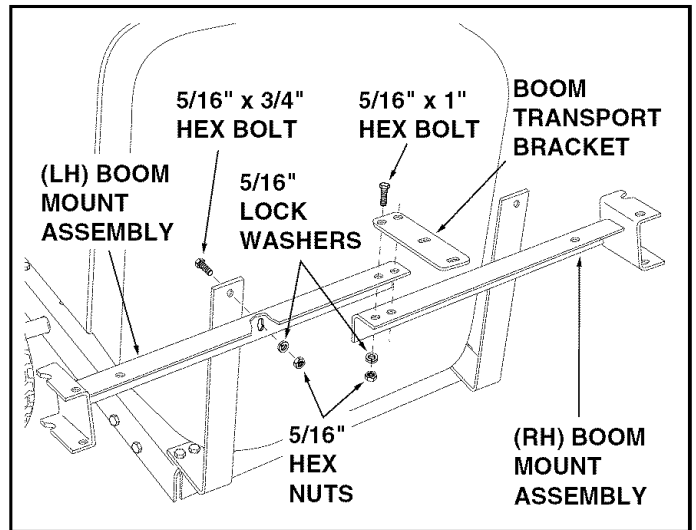

FIGURE 9 VIEWED FROM REAR
14. Assemble the (RH) and (LH) boom mount assemblies to the boom mount brackets using two 5/16" x 3/4" hex bolts, 5/16" lock washers and 5/16" hex nuts. Fasten through the slotted hole in each boom mount assembly. **Do not tighten** yet. See figure 9.
15. Align the holes in the boom transport bracket with the holes in the ends of the boom mount assemblies as shown in figure 9. Fasten them together using two 5/16" x 1" hex bolts, 5/16" lock washers and 5/16" hex nuts. **Tighten** the bolts assembled in this step and in step 14.